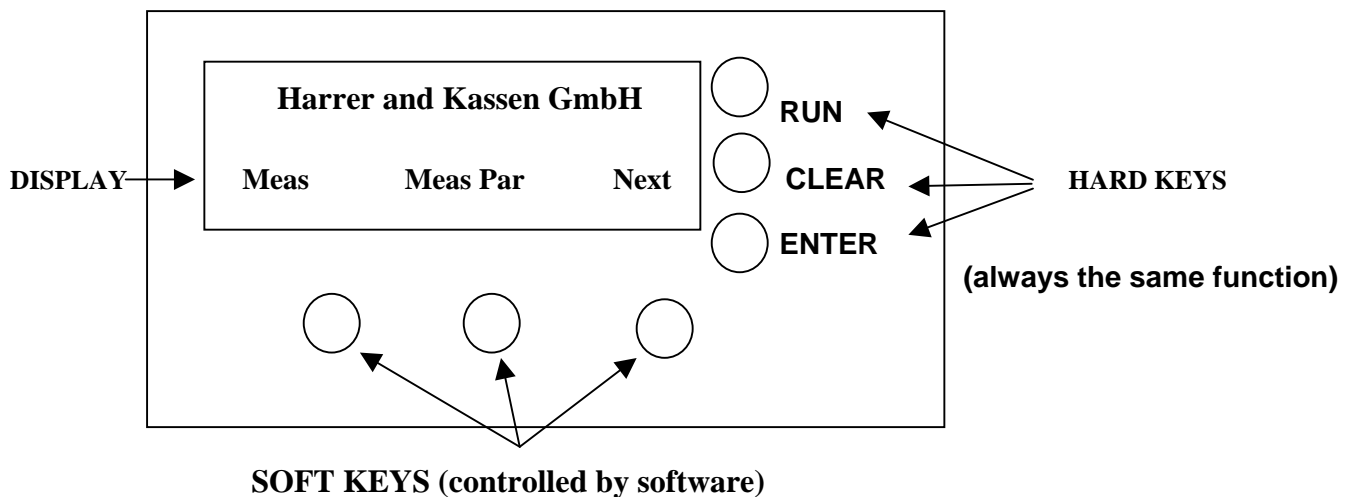

Figure 1 Front Panel of the HK-2
- B. There are several parameters to check and one (1) measurement to make when setting up the HK-2 Microwave System.
- E. The front panel of the HK-2 System looks like Figure 1. There are three (3) Hardware Keys and three (3) Soft Keys. You will use the six (6) buttons to program and operate the Microwave System. In the manual, I will only show the display when showing an example.